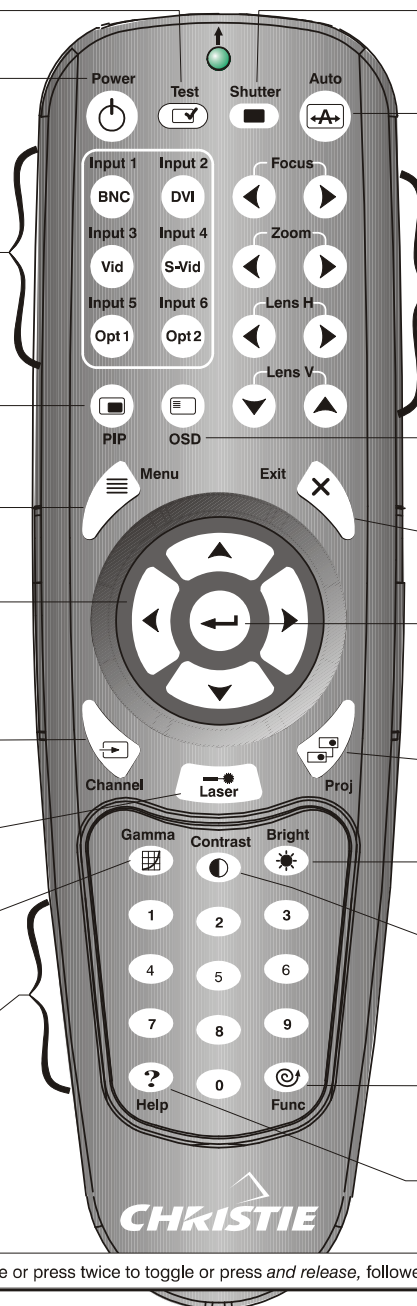

Figure 3.3. Remote Keypad
- 2) Note that three keys—Power, Shutter and OSD—press key once, refer to *Figure 3.3 Remote Keypad*.